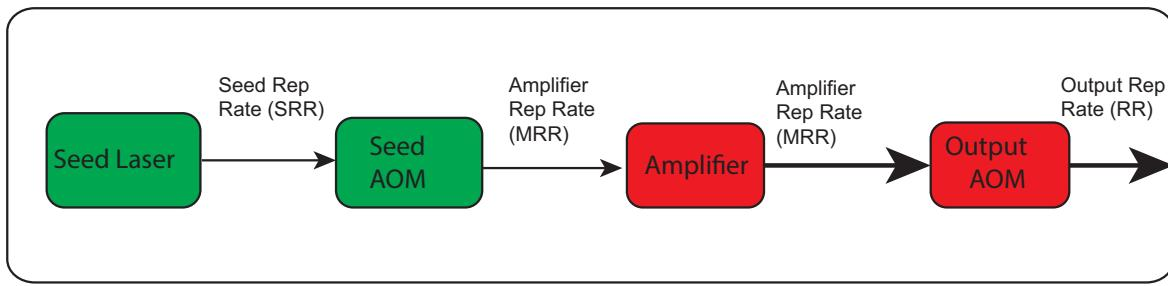
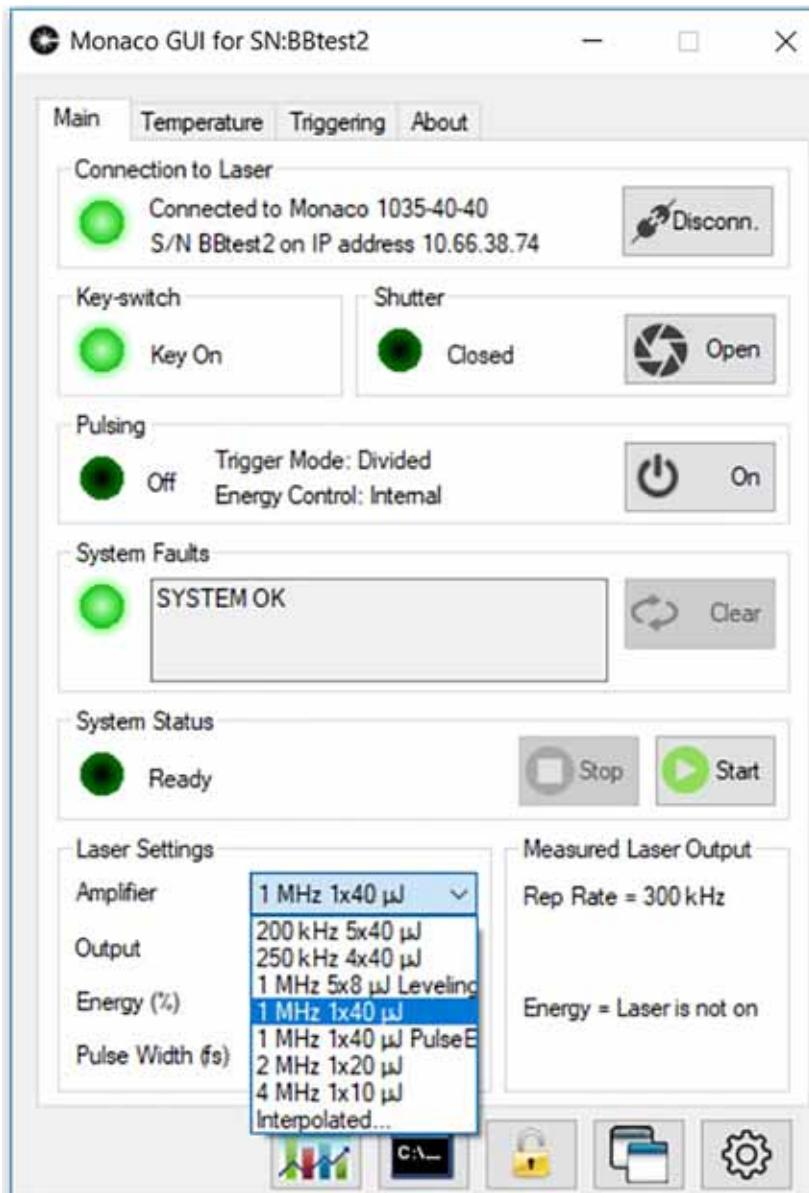
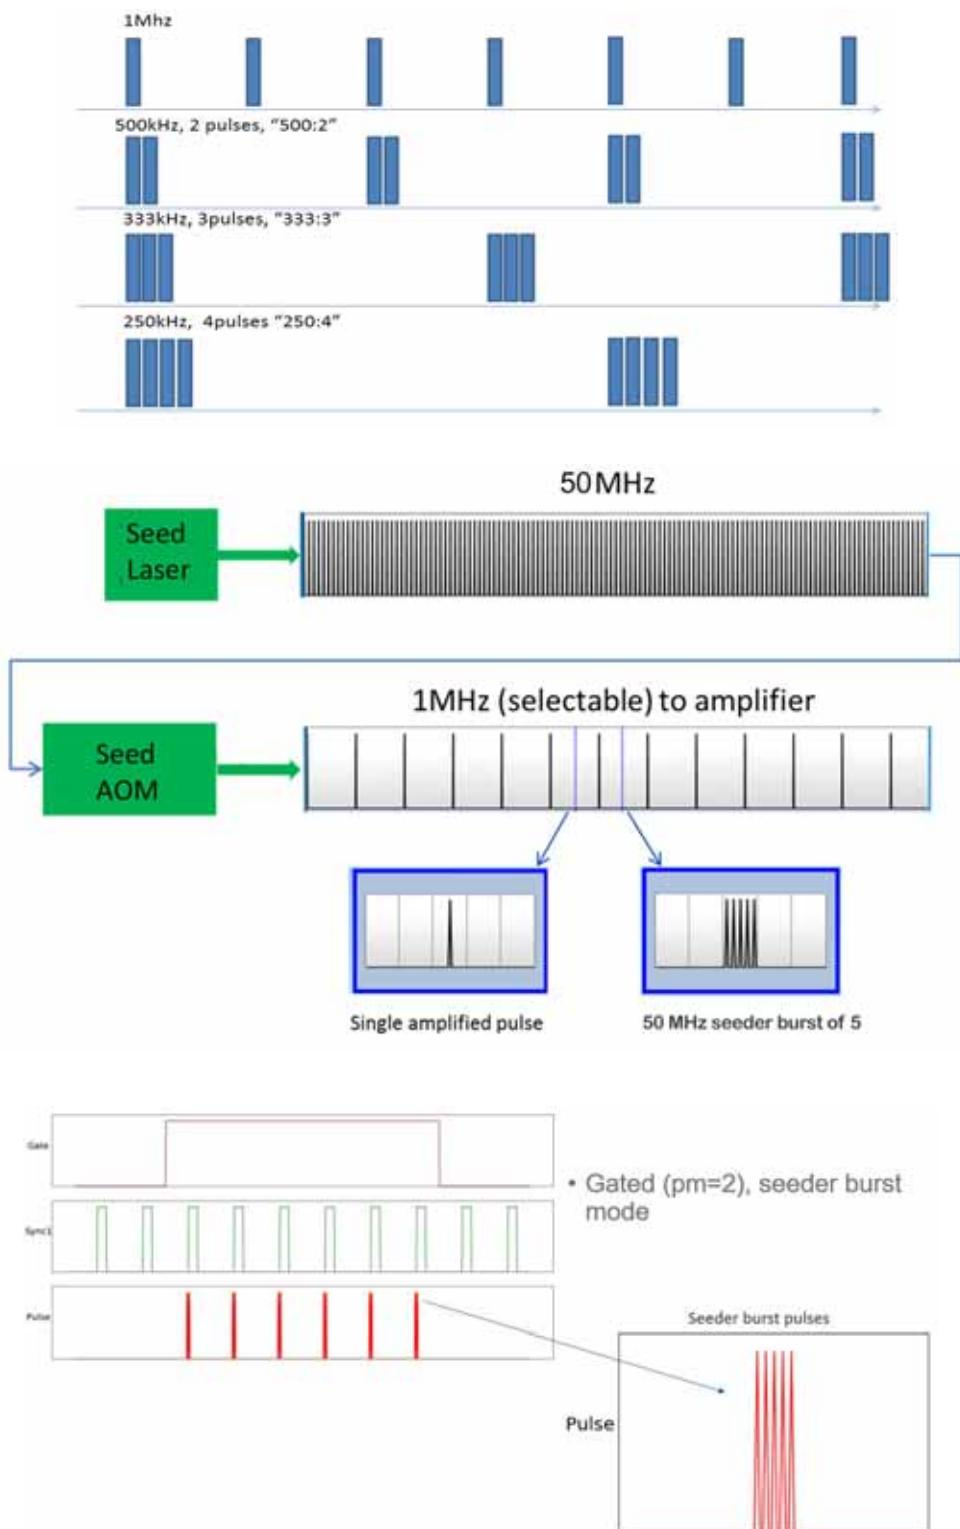

Figure 5-9. Laser Schematic and Laser Repetition Rates
Figure 5-11. Output Drop Down Menu
Figure 5-12. Seeder Burst Mode
The Monaco laser is operated at a steady pulse repetition rate set by the amplifier repetition rate (MRR) (see Figure 5-9 on page 55). The amplifier repetition rate can be selected through the Coherent GUI Main menu (see Figure 5-11 on page 57), or through the serial command SET. For systems with the Interpolated mode option, any repetition rate between 1 to 4 MHz can also be entered directly into the GUI or through the serial command SET.
For systems with the Seeder Burst mode option, multiple pulses are grouped into a short time window. The separation between pulses in the seeder burst is determined by the seed laser repetition rate (SRR) and is approximately 20 nsec (see Figure 5-9 on page 55). The exact separation between pulses can be calculated from $1/\text{SRR}$, where the seed repetition rate can be found by using the query ?SRR from the Command Prompt (See “About Menu Tab” (p. 87)). For example, with a seed repetition rate
of 50MHz the pulse separation would be 20nsec. The maximum output power in Seeder Burst Mode is still limited to 40W in a 1035-40 system. The number of pulses in each seeder burst can be chosen from the values in the Coherent GUI Amplifier Rep Rate drop down menu (see “Output Drop Down Menu” (p. 57)). If a seeder burst contains only one pulse, the laser operates the same as in Continuous Mode and it is simply a continuous stream of single pulses at the amplifier repetition rate (MRR). For example, at a 1 MHz amplifier repetition rate, changing the number of seeder burst pulses from 1 to 2 will decrease the amplifier repetition rate to 500kHz while maintaining 40W output power (pulse energy is still 40 μ J). The repetition rate and the number of pulses in a seeder burst can be specified using the Coherent GUI drop down table (see Figure 5-11), or through the serial command SET. If the SET command is used (see “SET Command” (p. 118) for a detailed description), the amplifier repetition rate and pulses per seeder burst entered are limited to the options displayed in the GUI drop down menu. See Figure 5-12 below for an illustration of Seeder Burst Mode.
Divided Mode enables Monaco laser output at lower pulse repetition rates by using the AOM to reduce the output laser pulse (or seeder burst) repetition rate by a frequency/rep rate divisor (RRD) chosen by the user. For example, for an amplifier laser pulse repetition rate of 1MHz and setting the divisor to 4, the output repetition rate would be 250kHz, the average output power would be divided by 4, and pulse energy and pulse width would be unchanged. To utilize Divided Mode, simply choose the desired repetition rate from the “Output” drop down menu in the Laser Settings window of the Main Tab of the GUI (see Figure 5-11). The divisor can also be specified by choosing a frequency divider through the serial command RRD. The value for the divisor can be from 1 - 65,535. Note that the pulse energy of the laser will not change in Divided Mode, only the repetition rate and output power.
Divided and Gated Mode enables pulsing by applying a TTL signal externally through the Gate 1 port similar to Gated Mode, and at a lower output pulse repetition rate similar to Divided Mode. To utilize Divided and Gated Mode the External Triggering button from the GUI Triggering Menu must be selected (see “Triggering Tab Selections” (p. 48)), or by using the serial command PM=3. Again the repetition rate can be chosen from the Output drop down menu (see Figure 5-11), or by the serial command RRD. The value for the divisor can be from 1 - 65,535.
In Burst and Divided Mode the number of pulses (or seeder bursts) emitted in a burst is initiated by the Gate 1 TTL signal and controlled by the Burst Pulses (BP) setting similar to Burst Mode, and at a lower output pulse repetition rate similar to Divided Mode. To utilize Burst and Divided Mode the External Triggering and Burst Mode buttons from the GUI Triggering Menu must be selected (see “Triggering Tab Selections” (p. 48)), or by using the serial command PM=5. As in Divided Mode the repetition rate can be chosen from the Output drop down menu (see Figure 5-11), or by the serial command RRD. The value for the divisor can be from 1 - 65,535. Note that if the gate period (when the TTL signal is high) is not sufficiently long then some pulses in the burst may be cut off. For example if RRD=4 and the output rep rate (RR) is 250kHz with BP set to 10 pulses, then the gate period must be at least 40 μ s to allow all the pulses to exit the laser.